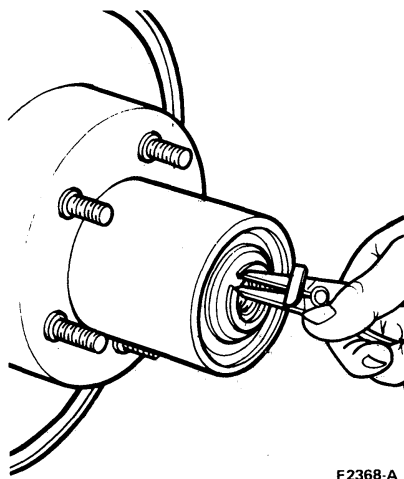

FIG. 1 Removing Snap Ring
2. Remove the front hub grease cap and the driving hub snap ring (Fig. 1).